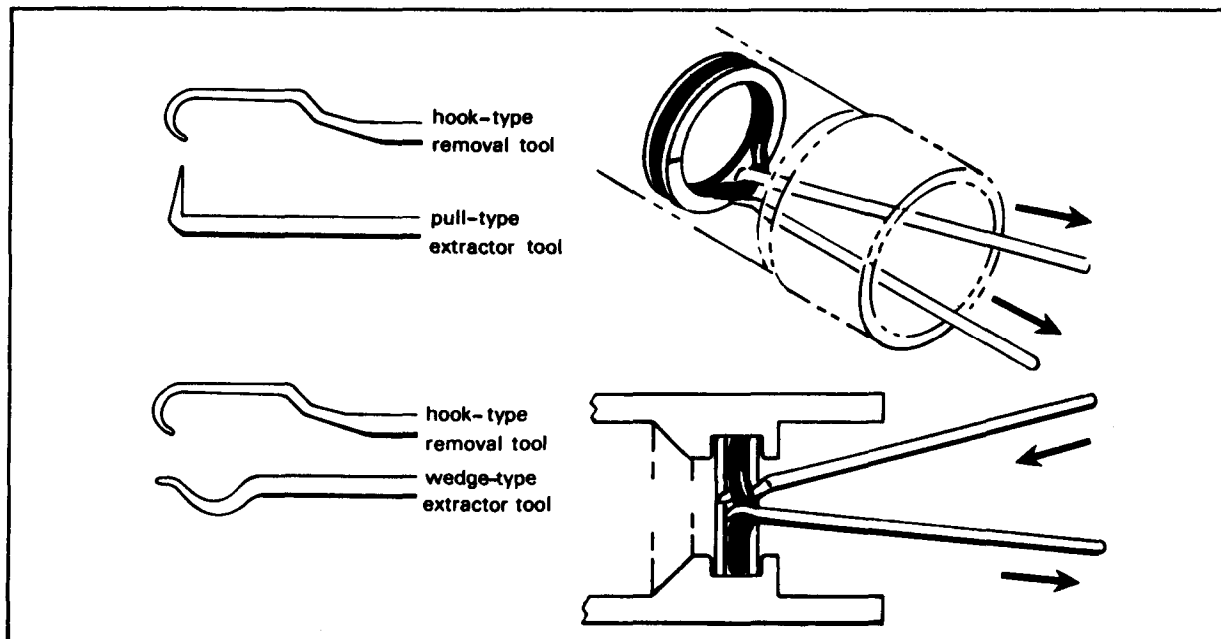

Figure 3-9. Pull method (single internal O-ring).
1. As shown in Figure 3-9, position the hook-type removal tool under the O-ring. Then lift it to allow the extractor tool and the removal tool to pull the O-ring from its place.